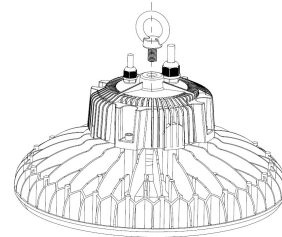

Figure 1
1. Screw the lifting ring into the high bay light fixture, then tighten firmly. (Figure 1)